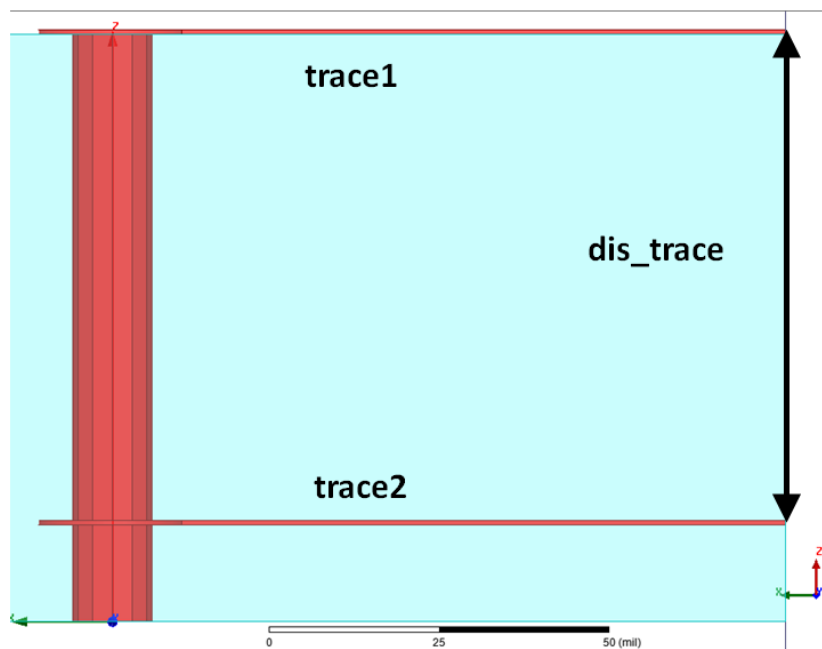

Figure 4 One trace immersed in air and the other one immersed in the dielectric layer.
3. The two pairs of traces are shown in Figure 4. The distance measured from the bottom surface of trace 1 to the top surface of trace 2 is **dis\_trace** = 72.3 mil.